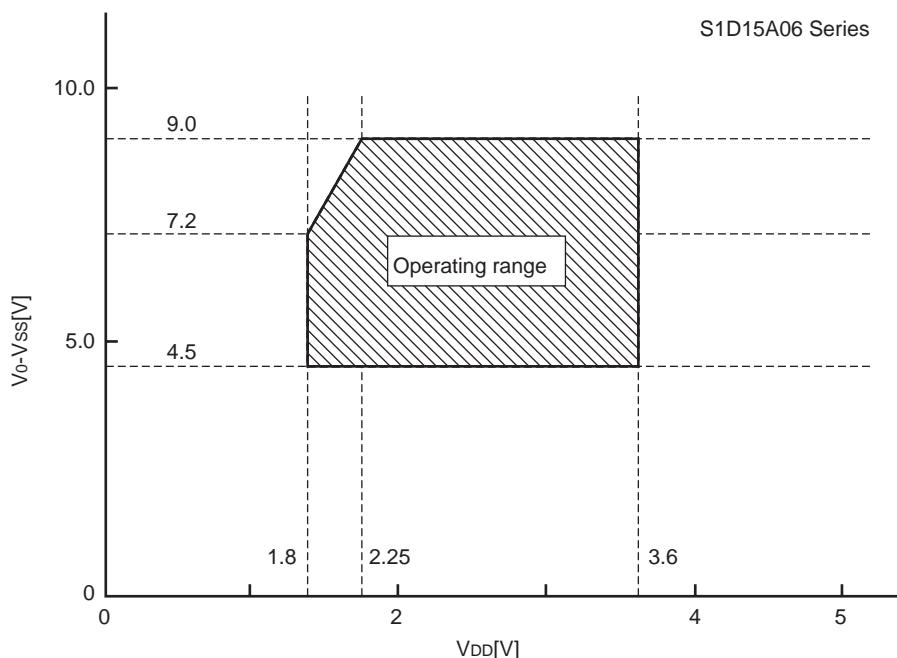

Figure 21
- \* 2 : See Figure 21 for the operating voltage range of VDD and V0 systems. It is applicable when an external power supply is used.
- \* 3 : A0, D0 to D5, D6 (SCL), D7 (SI),  $\overline{RD}$  (E),  $\overline{WR}$  (R/ $\overline{W}$ ), CS, CL, C86, P/S and  $\overline{RES}$  pins.  $V_{IH} = 0.8 \times VDD$  to  $VDD$ ,  $V_{IL} = Vss$  to  $0.2 \times VDD$  when  $VDD = 1.8V$  to  $2.7V$ .
- \* 6 : It is applicable when D0 to D5, D6 (SCL) and D7 (SI) pins are placed in high impedance.
- \* 7 : It represents the resistance value to be employed when 0.1V is applied across the output pin SEGn or COMn and respective power terminals (V1, V2, V3 and V4). It must be selected within the operating voltage range (3).  $R_{ON} = 0.1V/\Delta I$  ( $\Delta I$  represents the current conducted when 0.1V is applied when the power supply is turned on).
- \* 10 : The built-in reference voltage source of the V0 voltage adjustment circuit. Two types of VREG temperature gradients are supported by the S1D15A06; (1) Approximately  $-0.1\%/\text{ }^{\circ}\text{C}$  and (2) External input.